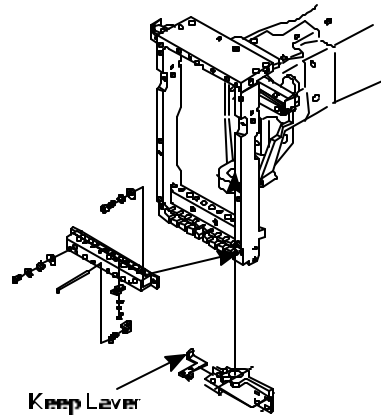

Figure 1
3. **Pull** Thread Keep Lever to **left** to disengage thread apron clamps. See *Figure 1*.